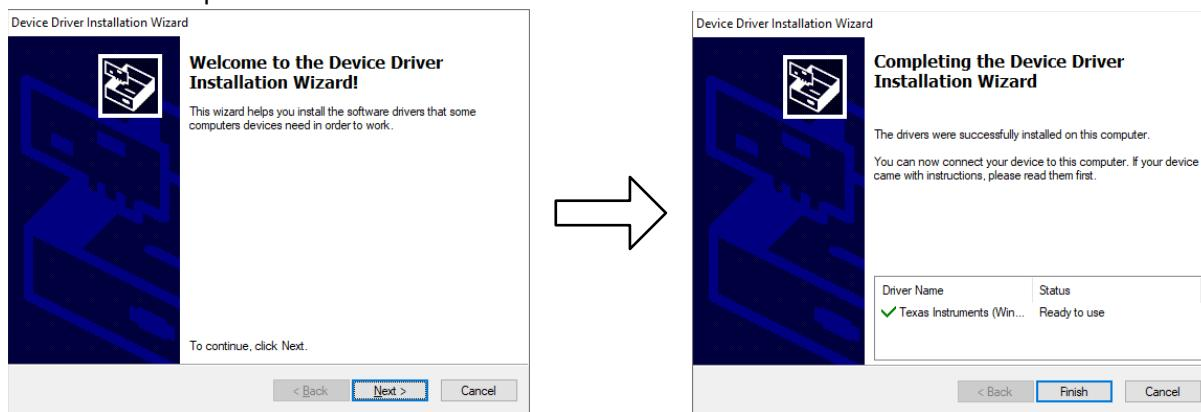

Figure 5-3. Device Driver Installation Wizard
3. As a part of the ADS7953EVM GUI installation, a prompt with a Device Driver Installation Wizard (Figure 5-3) appears on the screen. Click the *Next* button to proceed, then click the *Finish* button when the installation is complete.